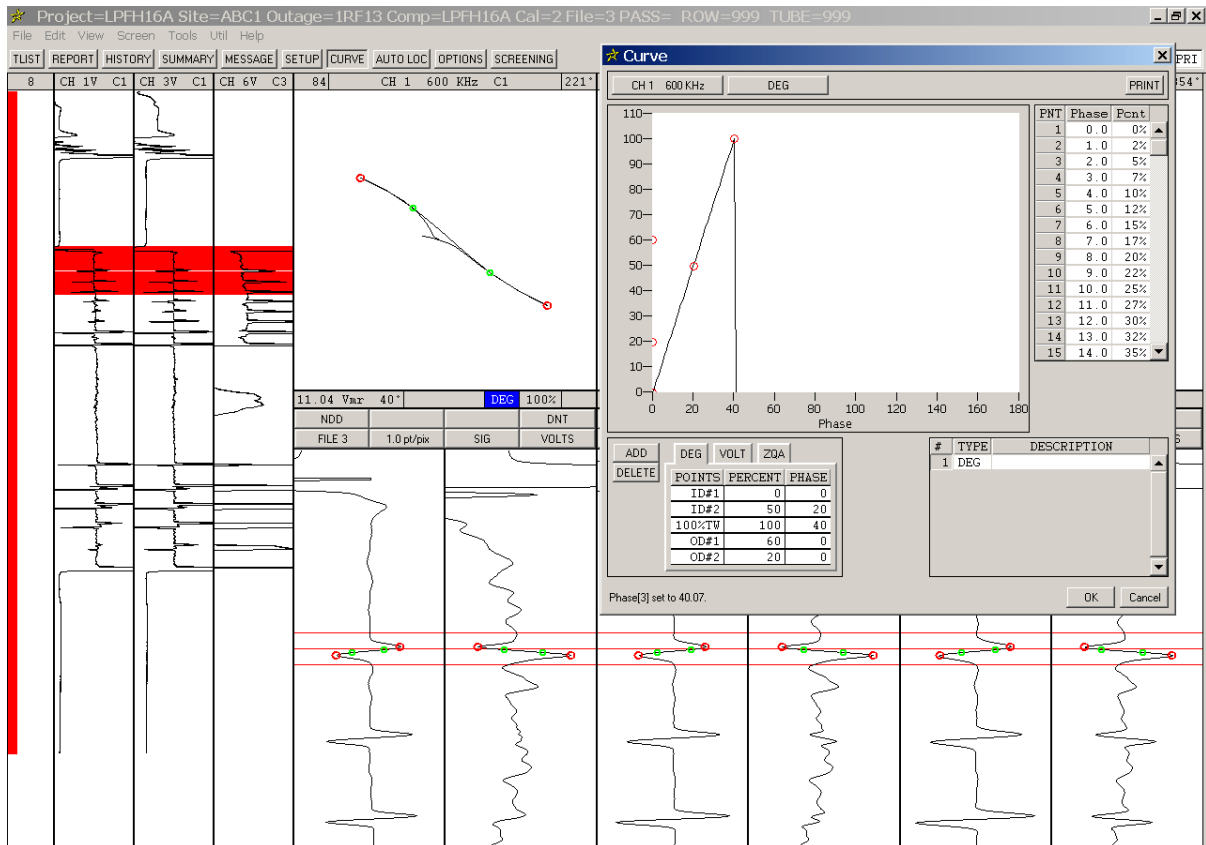

Figure 1-19. Analysis Screen - Curve Dialog - Entering the Phase of a Calibration Flaw
- STEP 13:** Click once in the **Phase** field for the **100%TW** on the **DEG** table. As shown in Figure 1-19, the phase measurement (~40°) for **CH 1** is automatically entered in the field and the curve starts to change.